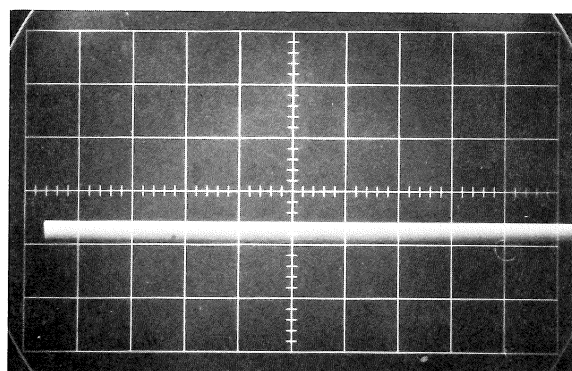

Figure 9
1. Obtain a defocused trace on CRT. (See Fig. 9)